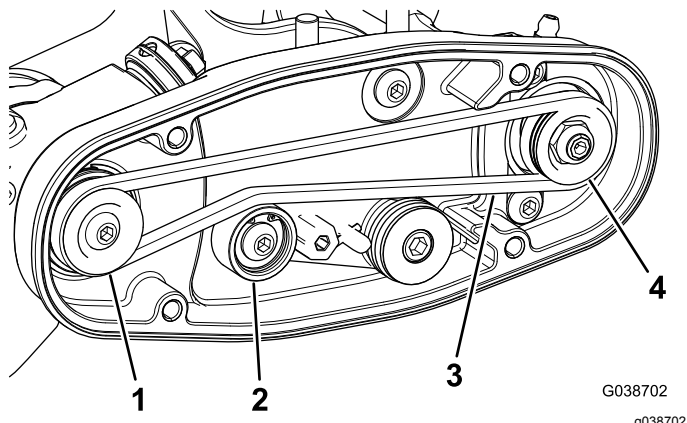

Figure 26
- A. Loop the belt around the **drive** pulley and then over the top of the idler pulley (Figure 26).
- B. Start the belt on the **driven** pulley (Figure 26).